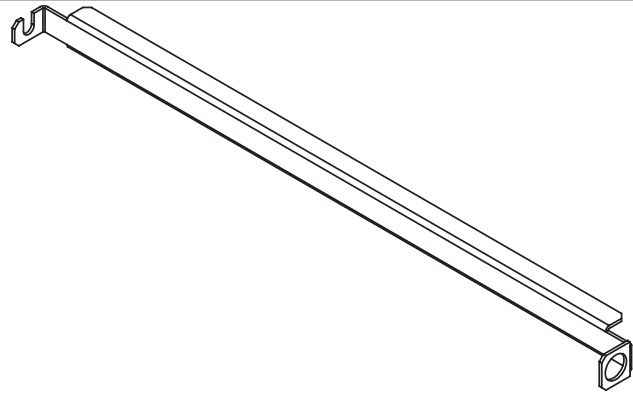

Figure 1 - Teflon Rollup bar bracket
3. Install Teflon rollup bar bracket by placing new rollup over existing Teflon bar, with the set screws facing DOWN (See Figure 1).